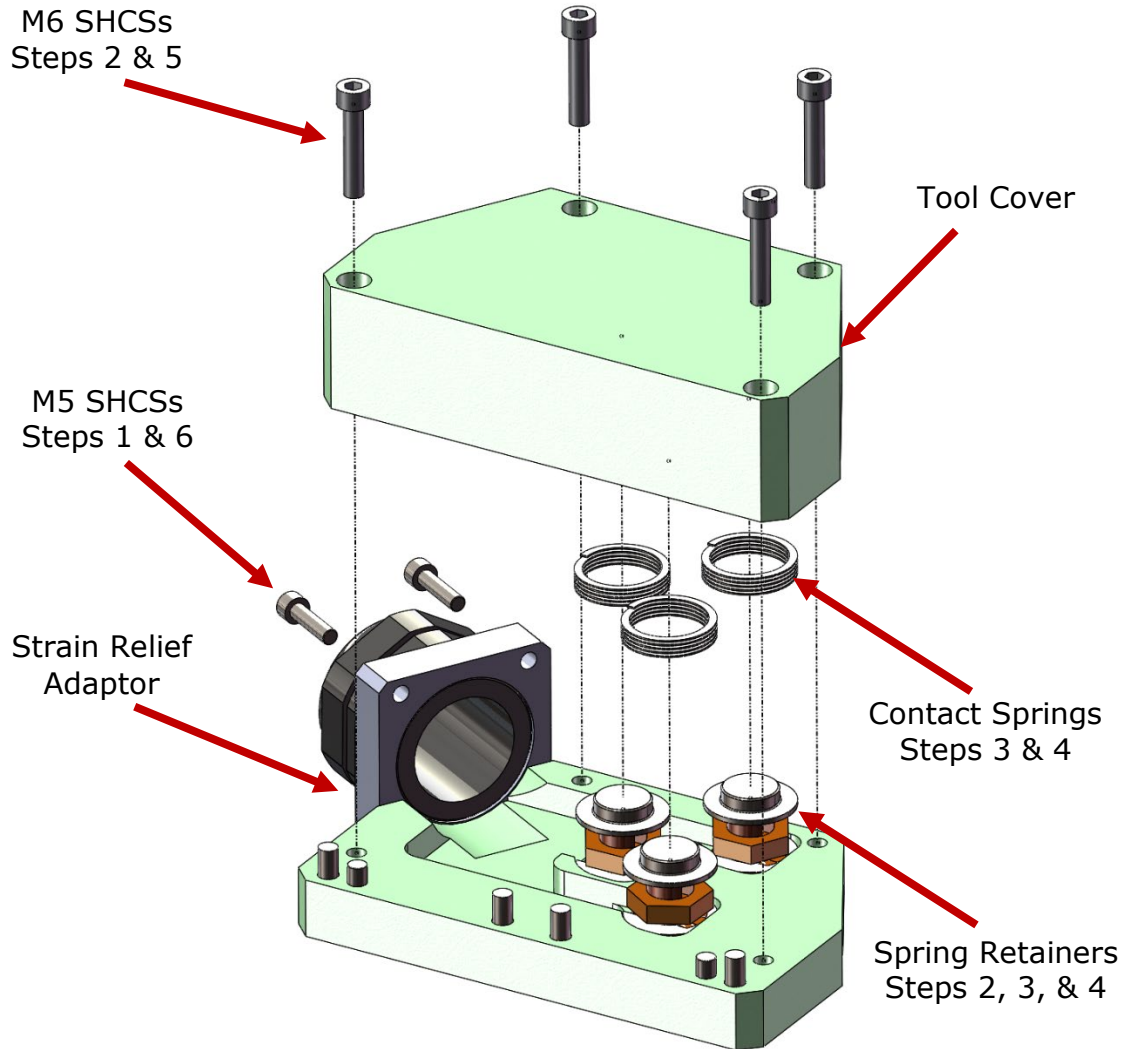

Figure 9.3-1. Contact Spring Replacement (Tool Side)
1. Remove M5 (48029) socket head cap screws from Tool Cover (0202-D82N) as shown in Figure 9.3-1. Contact Spring Replacement (Tool Side).